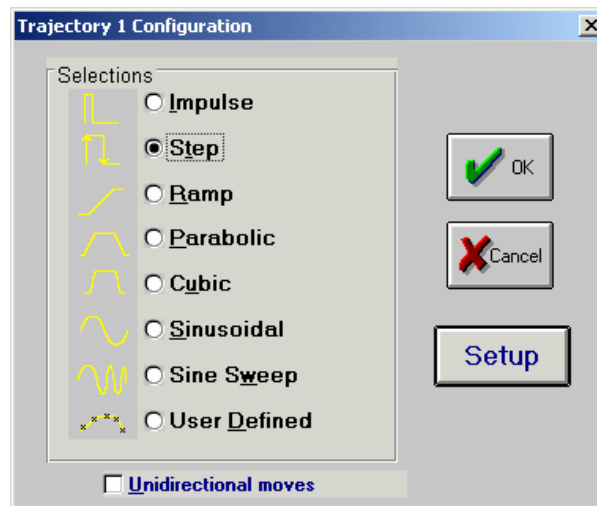

Figure 3: Trajectory 1 Configuration Window
- For an **open-loop experiment using Servo Motor 1**: select **Command - Trajectory 1** from the main menu bar in the ECP Main Window to specify the test signal (called trajectory) for Servo Motor 1. For an **open-loop experiment using Servo Motor 2**: select **Command - Trajectory 2** from the main menu bar in the ECP Main Window to specify the test signal (called trajectory) for Servo Motor 2. A window similar to Figure 3 will open, allowing you to specify various test signals (trajectories). Typically we will use Step inputs.